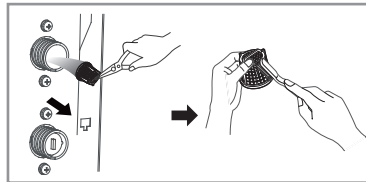

Fig. 21
- Clean the filter using a hard bristle brush under the running water. (Fig. 21)